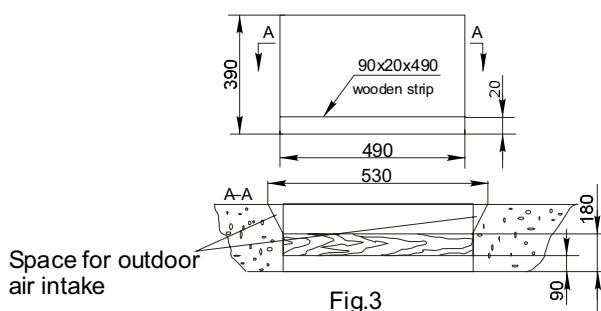

Fig.3
- The square hole should be smooth enough if the appliance is installed through a wall. A space as shown in fig.3 for outdoor air intake should be prepared if the wall is too thick.